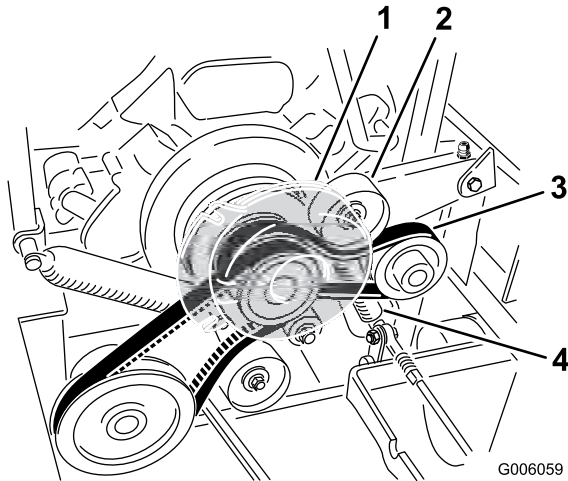

Figure 62
3. Remove the spring from the idler arm (Figure 62).
4. Install the new belt around the engine and hydraulic pump pulley (Figure 62).
6. Install the spring to the idler arm (Figure 62).